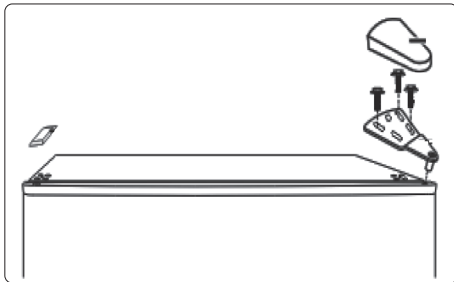

fig.2
- 2. Remove the hinge cover and upper hinge from the top right side of the cabinet. Remove the screw hole cover from the top left side of the cabinet. (fig.2)